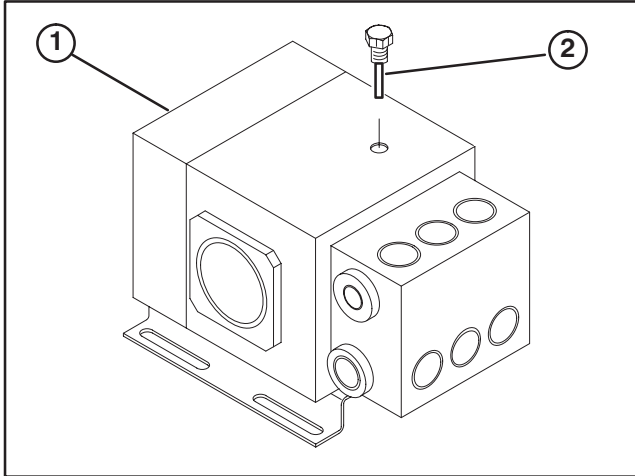

Figure 2
2. Check level of oil on pump sight gauge (Fig. 2). Oil level should be up to middle of gauge window.